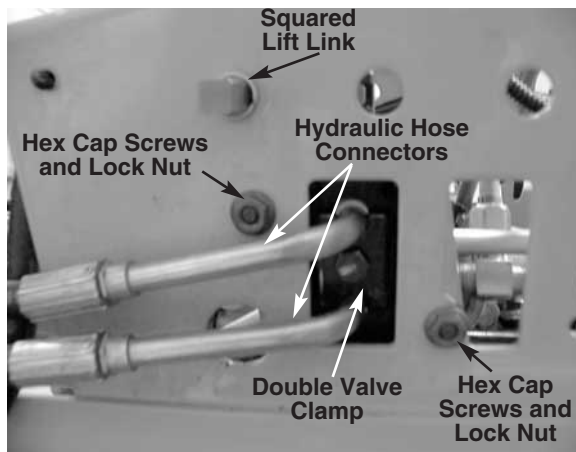

FIGURE 1.
2. Remove the double valve clamp from the valve body using a 7/16 socket. See figure 1.
3. Remove both hydraulic hose connectors coming from the hydraulic lift cylinder to the valve body. See figure 1.
8. Remove both hex cap screws and hex flange lock nuts securing the hydraulic valve to the frame using a 7/16 socket. See figure 1.